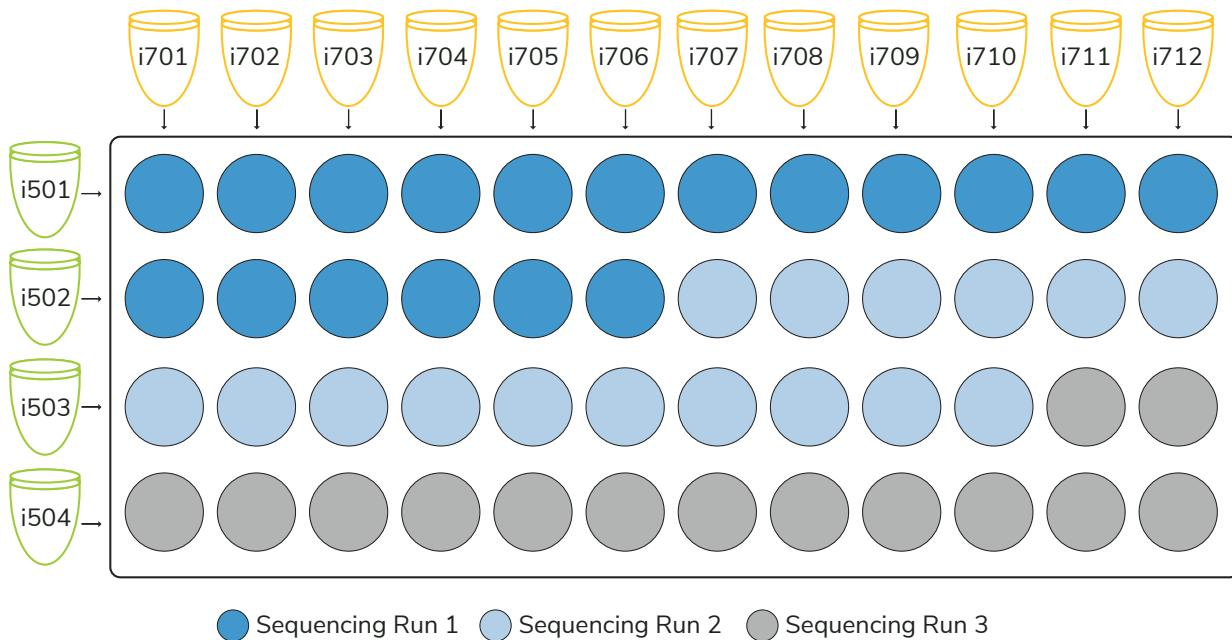

FIGURE 16
Figure 16 provides an example of how i5 and i7 Primers can be selected across three different sequencing runs. Although the i5 and i7 Primers shown are from 14-1102-48s1, the same principles apply for 14-1102-48s2 and 14-1102-24s3.
- For Sequencing Run 1 in Figure 16 (dark blue), begin by pairing the first i5 Primer (i501) with the first i7 Primer (i701).
- In subsequent experiments, begin primer selection where the last run stopped. In Figure 16, Sequencing Run 1 ends with i502 and i706 (dark blue). When selecting primers for the next CUT&Tag experiment, begin with i502 and i707 (Sequencing Run 2; light blue).